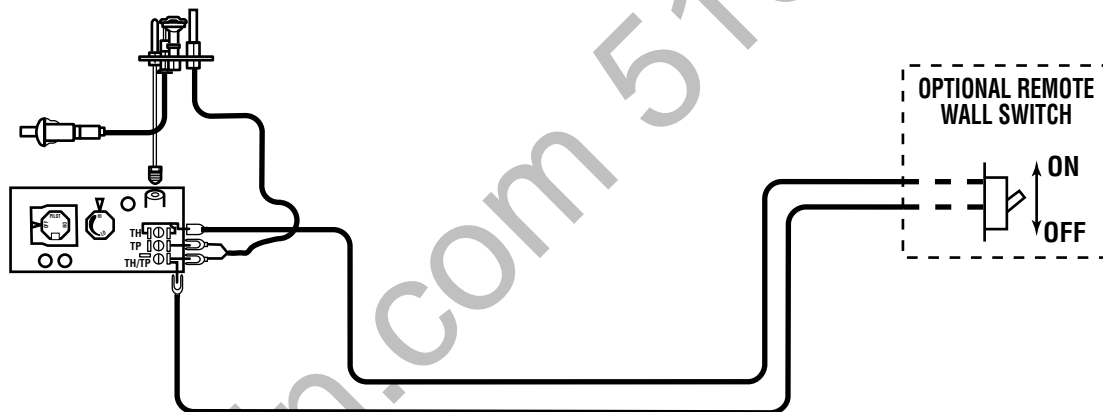

Figure 33 -
A remote wall switch and up to fifteen (15) feet of 18 Ga. wire may be used with this appliance. Attach the wall switch in a junction box at the desired location on the wall. *Figure 33*. Do not extend beyond the wall switch wire length provided.